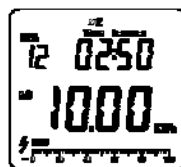

Figure 23
4. Press **SELECT** to choose one of the three phases (Ø1, Ø2, Ø3), see figure 23.